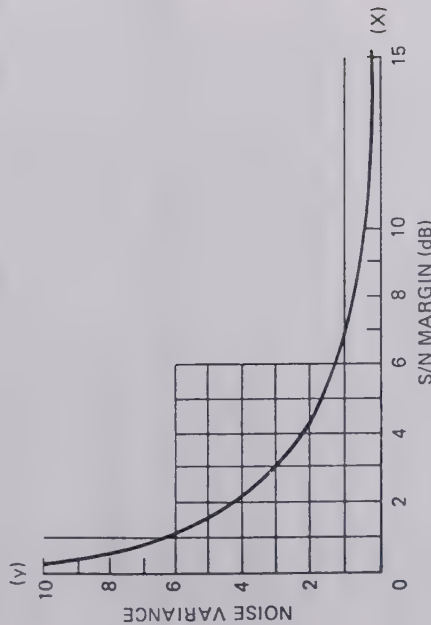

Figure 2-3
This NOISE VARIANCE value is entered on the vertical (Y) axis of the graph in Figure 2-3. By drawing a horizontal line to the curve in the graph, and a vertical line from the curve down, the Signal-to-Noise Margin (dB) can be read on the X-axis.